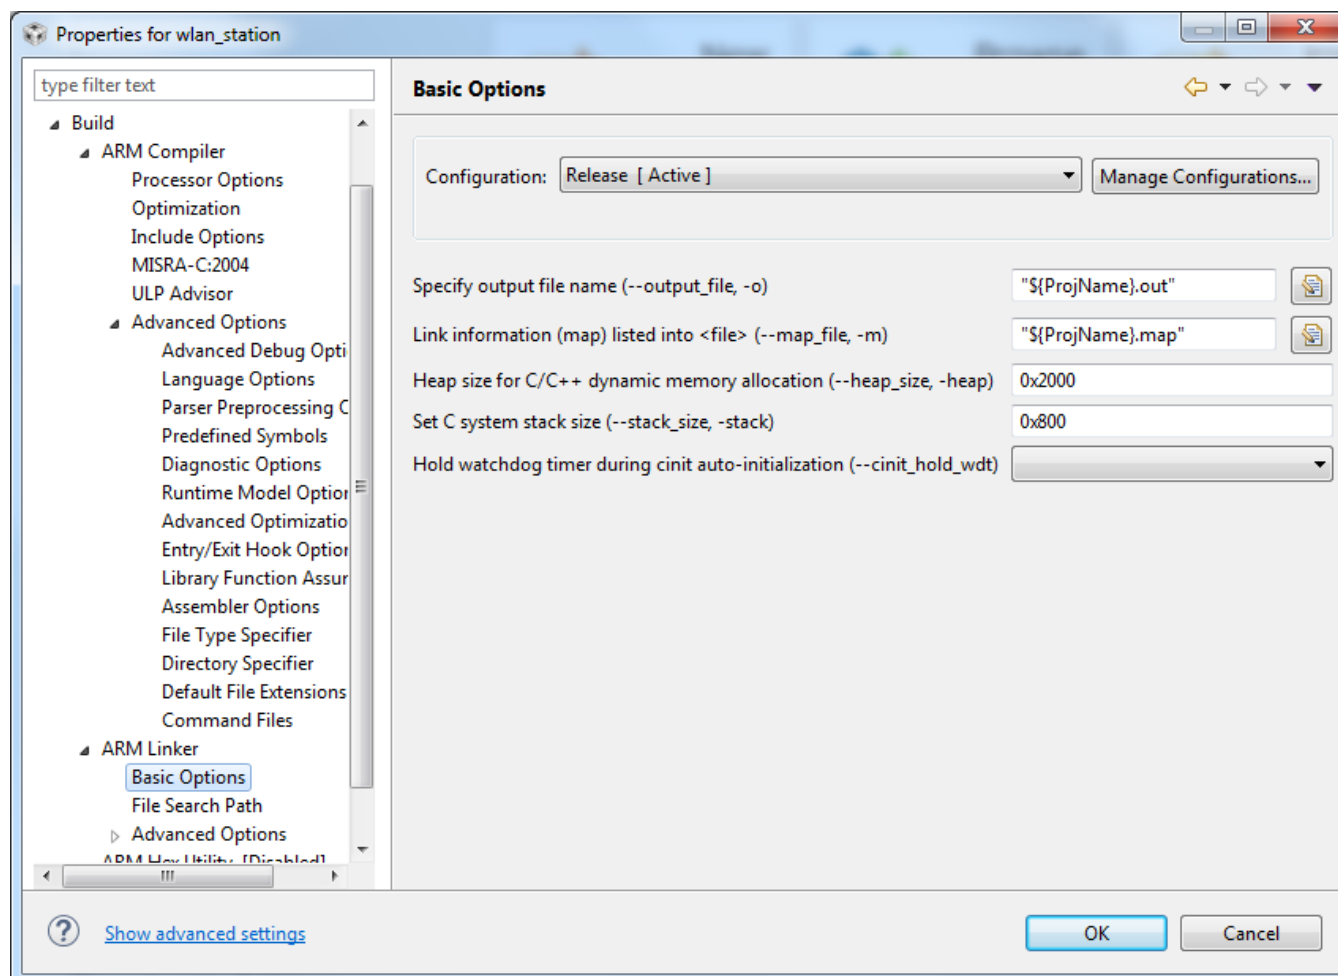

Figure 5-17. CCS Stack and Heap Values
- Specify the stack and heap values, along with the output file settings, as shown in Figure 5-17.
NOTE: If tirtos is being used, the heap setting in Figure 5-17 will have no effect, as the heap values are specified in the app.cfg file in the tirtos_config project.